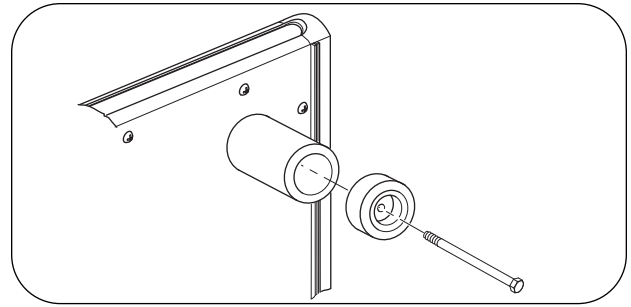

Figure 8. Optional 4" (102 mm) Designer Legs
2. Place hexbolt through short rubber foot (with bolt head on recessed foot side) and through metal Designer Leg. Align bolt in corner hole on base and tighten securely. (See Figure 8.)